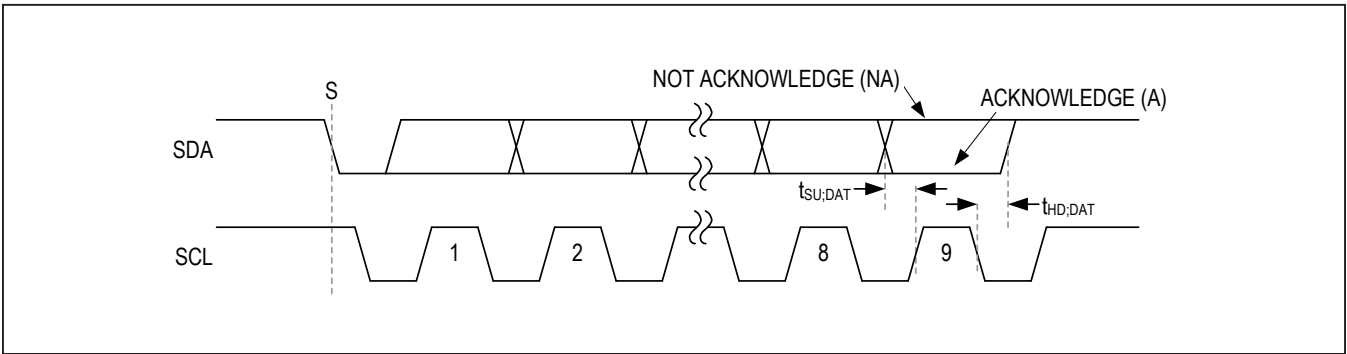

Figure 25. Acknowledge Bit
Both the I2C bus master and the MAX77650/MAX77651 (slave) generate acknowledge bits when receiving data. The acknowledge bit is the last bit of each nine bit data packet. To generate an acknowledge (A), the receiving device must pull SDA low before the rising edge of the acknowledge-related clock pulse (ninth pulse) and keep it low during the high period of the clock pulse. See Figure 25. To generate a not-acknowledge (nA), the receiving device allows SDA to be pulled high before the rising edge of the acknowledge-related clock pulse and leaves it high during the high period of the clock pulse.